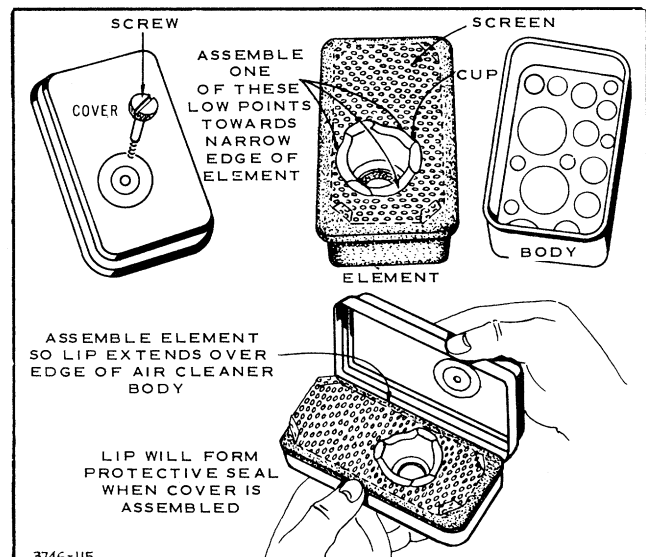

FIG. 17
D. Assemble parts - fasten to carburetor with screw. See Fig. 17.